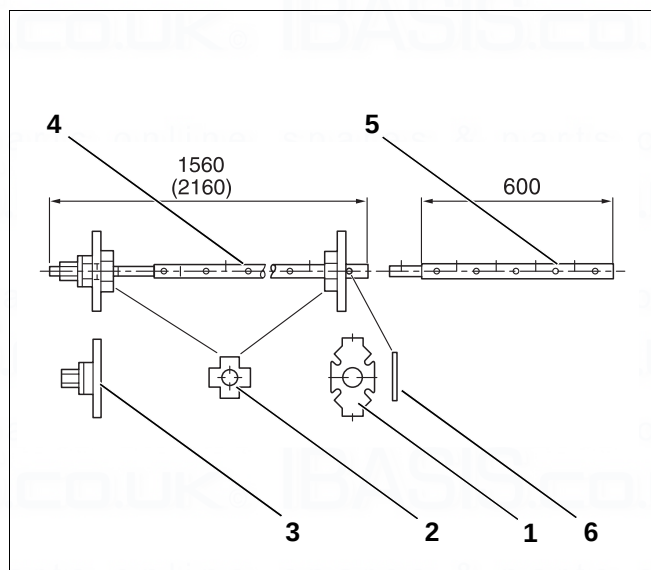
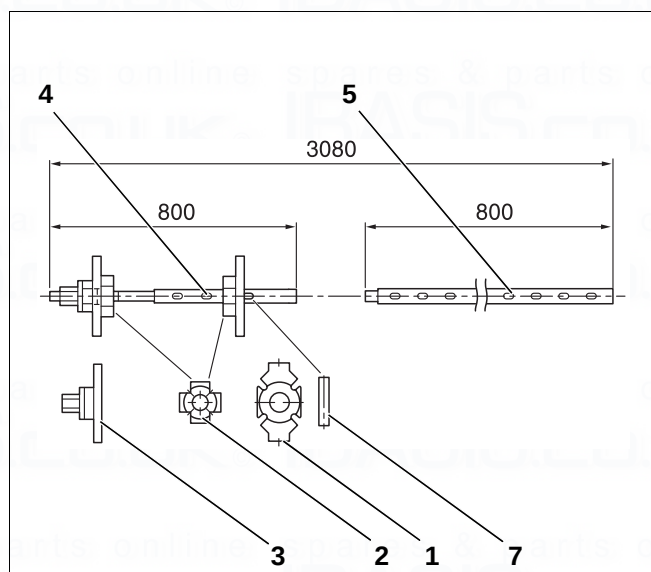
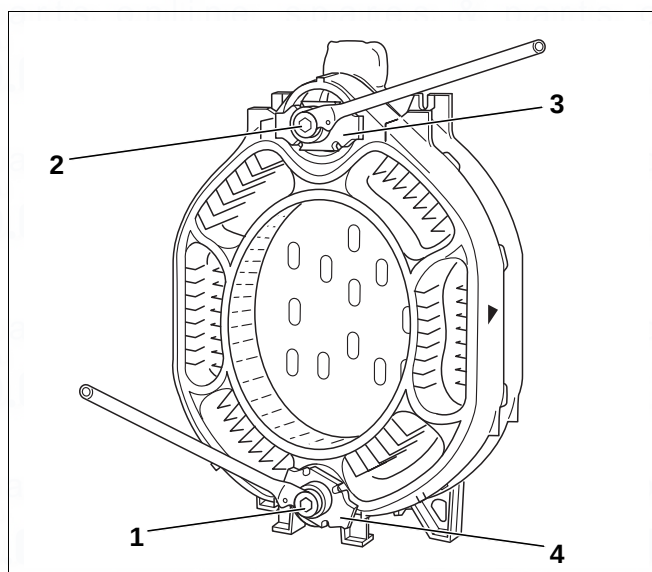

Fig. 1 Boiler compression tool size 2.2
Fig. 2 Boiler compression tool size 2.2
Fig. 14 Using the boiler compression tool
- Boiler compression tool 2.2 (Fig. 1) or 2.3 (Fig. 2)
Key for (Fig. 1) and (Fig. 2):
Next, the part-assembled boiler block must be pulled together using the boiler compression tool (Fig. 14).
Only boiler compression tools of size 2.2 or 2.3 may be used (Fig. 1 or Fig. 2 and Fig. 14, [1] and [2]).
- ▶ Push the compression units (Fig. 14, [3] and [4]) onto the pull rods (Fig. 1 or Fig. 2, [4]).